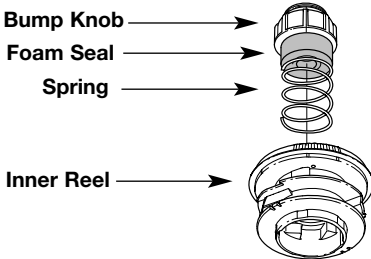

Fig. 25
- Remove the bump knob, spring, and foam seal by turning the Bump Knob counterclockwise (Fig. 25).
- Pull out the bump knob, spring, and foam seal (Fig. 25).
7. Place the bump knob, spring, and foam seal in the outer spool (Fig. 25).